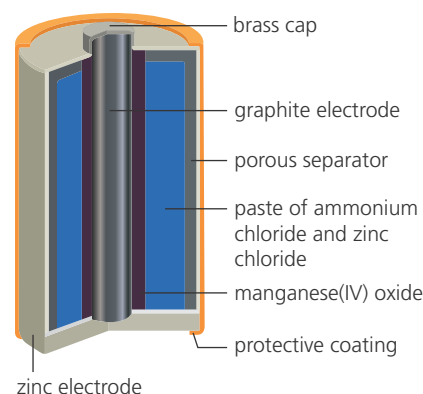

Figure 24.45 Carbon–zinc dry cell (in cross section)
The common dry cell (Figure 24.45) contains an aqueous paste of ammonium chloride and powdered manganese(IV) oxide as the electrolyte. The positive electrode (cathode) is made of a graphite rod (often with a brass cap) and the zinc casing is the negative electrode (anode). A porous separator acts as a salt bridge to allow ions to migrate. It also prevents the two electrodes touching and causing a short circuit.